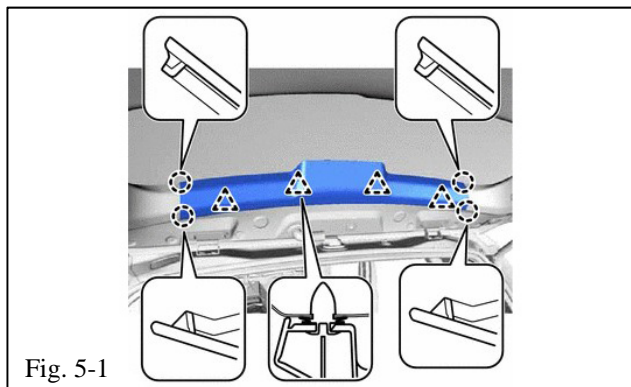

Fig. 5-1
- (a) Engage the 4 claws and 4 clips to reinstall the back door upper trim panel assembly (Fig. 5-1).